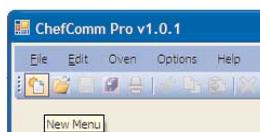

Figure 12: New Menu
2. Click the “New Menu” icon (Figure 12).